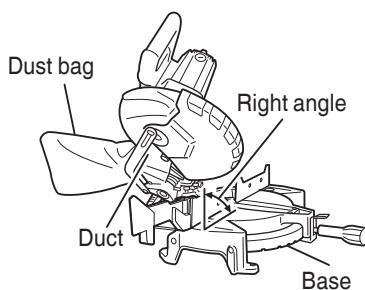

Fig. 27
- (2) During bevel and compound cutting, attach the dust bag at a right angle to the base surface as shown in Fig. 27.